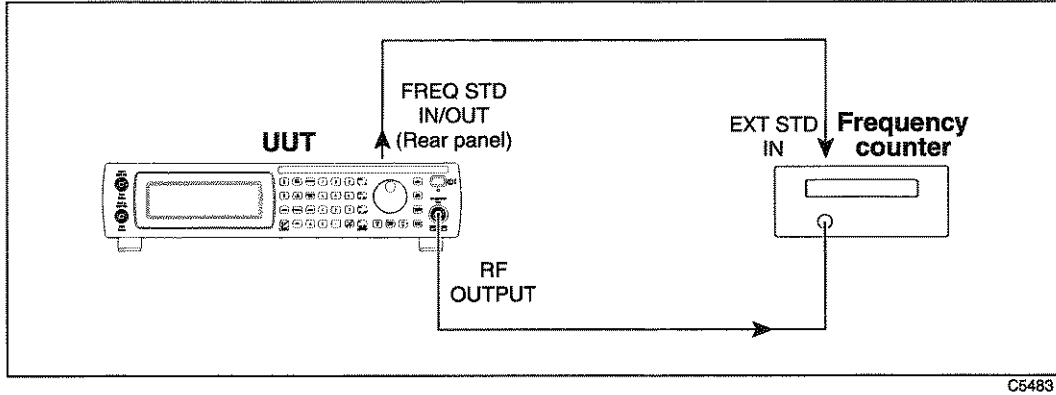

Fig. 6-1 Carrier frequency accuracy test set-up
- 1 Connect the test equipment as shown in Fig. 6-1.